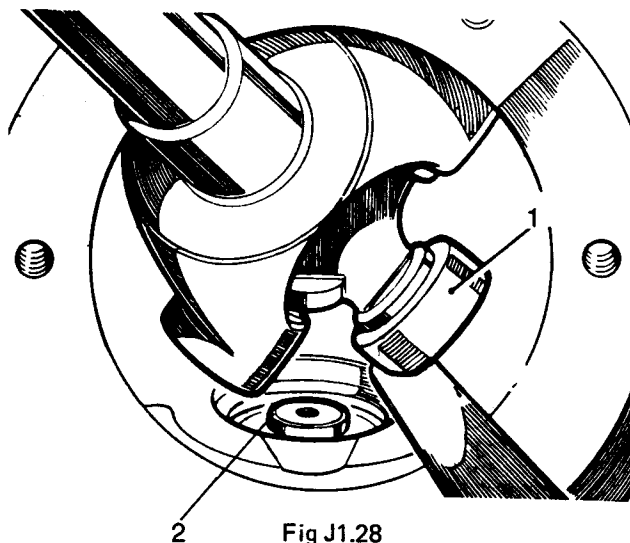

Fig J1.28
- (3) Refer to Fig J1.28. Rotate the half shaft and check that there is a minimum clearance of 1,2 mm between the joint yoke ears (1) and the swivel pin end faces (2).
- (4) If the clearance is insufficient, increase the chamfer on the yoke ears radius.
- (5) Replace the stub axle (see Sub-sub-section J1.4, Chapter 7).